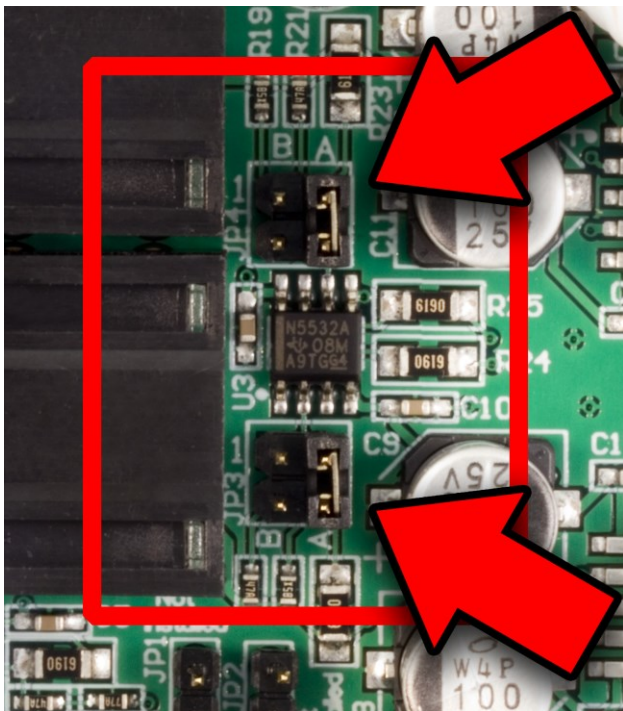

Figure 3 - 0 dB Headphone Attenuation
- **0 dB** attenuation - see **Figure 3**